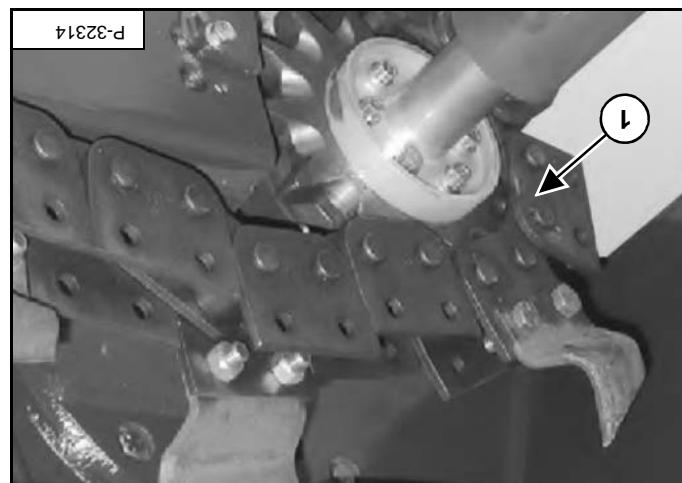

Figure PM-15
Remove the chain (item 1) [Figure PM-15] from the drive